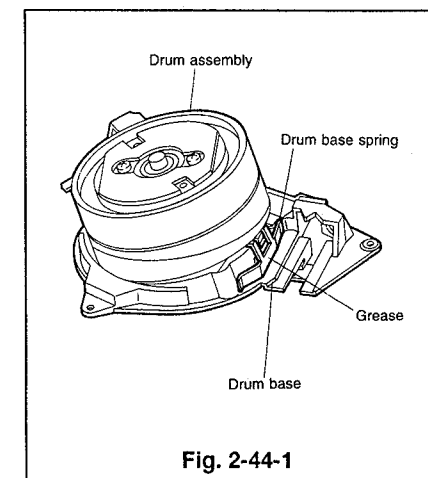

Fig. 2-44-1
- ① Remove the drum base spring between the drum base and the drum assembly. (Refer to Fig. 2-44-1.)
- ① Set the drum base spring in the gap between the drum base and the drum assembly. Make sure that the drum base spring is secure enough not to fall out.
- ② Apply grease (PG-641) [859D055O30] to the area of the drum base spring as shown in Fig. 2-44-1.